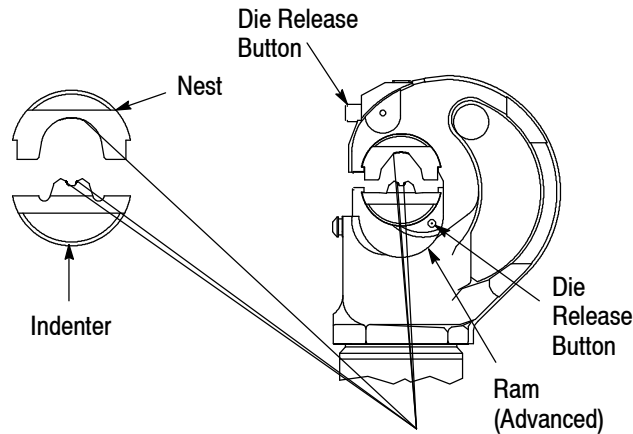

Figure 3
**3.1. Die Installation (Figure 3)**
2. Slide the nest into place in "C"-head. See Figure 3.
6. Slide the indenter into position in the ram. See Figure 3.
**3.2. Die Removal (Figure 3)**